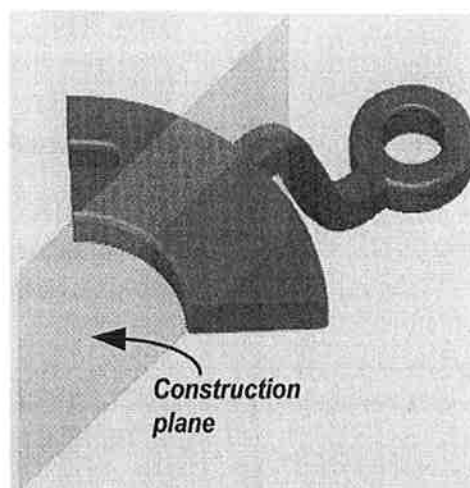

Figure 13-6
3. Create a construction plane through the middle of the existing body, as shown in Figure 13-6. Use the **Midplane** option and select the two planar faces to define its location.